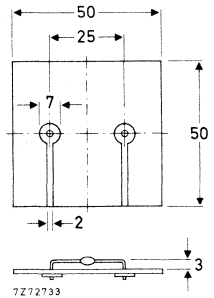

Fig. 4 Mounting method 3.
3. Thermal resistance from junction to ambient when mounted on a 1,5 mm thick epoxy-glass printed-circuit board; Cu-thickness ≥ 40 μm ; Fig. 4